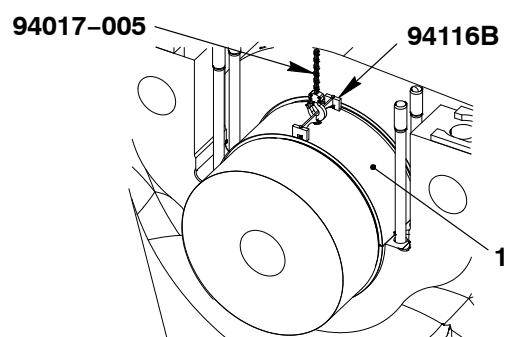
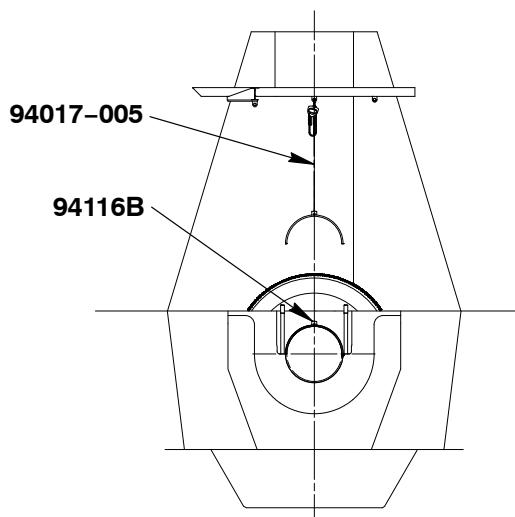

Fig. 21
Fig. 22
- 9) Pull the bearing shell (1, Fig.21) out as shown in Fig.22.
- 11) Install the lifting tool (94116B, Fig.21) on the bearing shell (1).